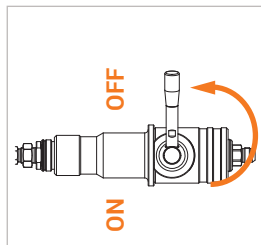

Figure 5
- ▶ Turn the actuation lever (Pos. 3) on the fueling nozzle through 180° to the OFF position (*Figure 5*).